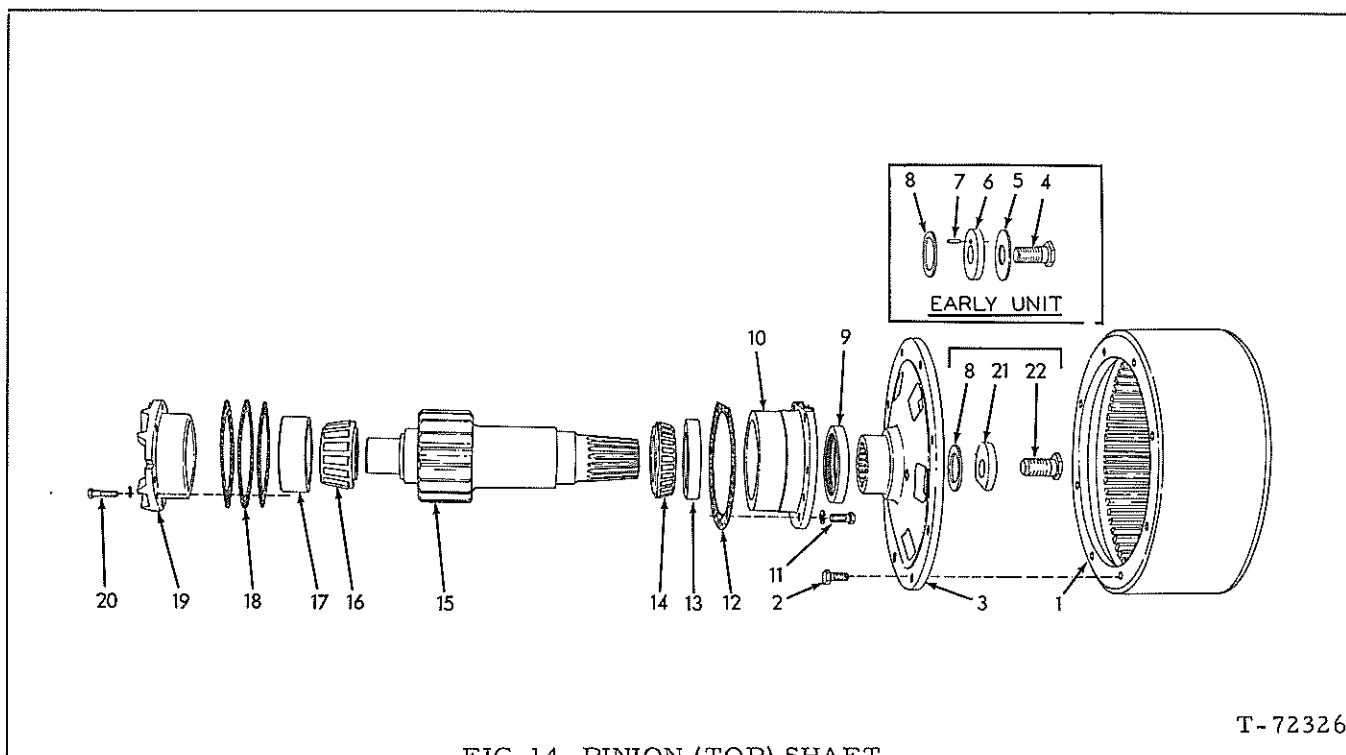

FIG. 14 PINION (TOP) SHAFT
1. Refer to Fig. 14; assemble bearing cup (17) in cage (19). Use guide studs; install assembled cup and cage (with original bearing adjustment shims) in outer housing bore.
7. Install brake drum hub, Fig. 14 (3); secure to top pinion with retaining washers and capscrew. Torque hub retaining capscrew to 300 lbs. ft. (41.47 kg-m).